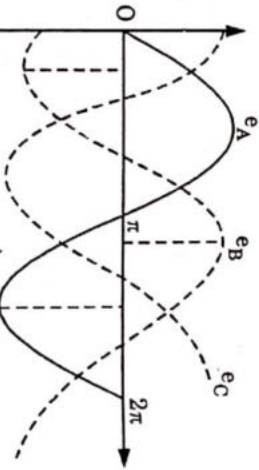

Fig. 4.32.2. Voltage wave shapes of 3 ϕ alternator.
4. Since induced emf e is directly proportional to flux density (if l and v is made constant, the emf wave will be identical to the flux density wave). If the flux density produced by the field winding is sinusoidal the emf induced in phase coils will be sinusoidal as shown in Fig. 4.32.2.